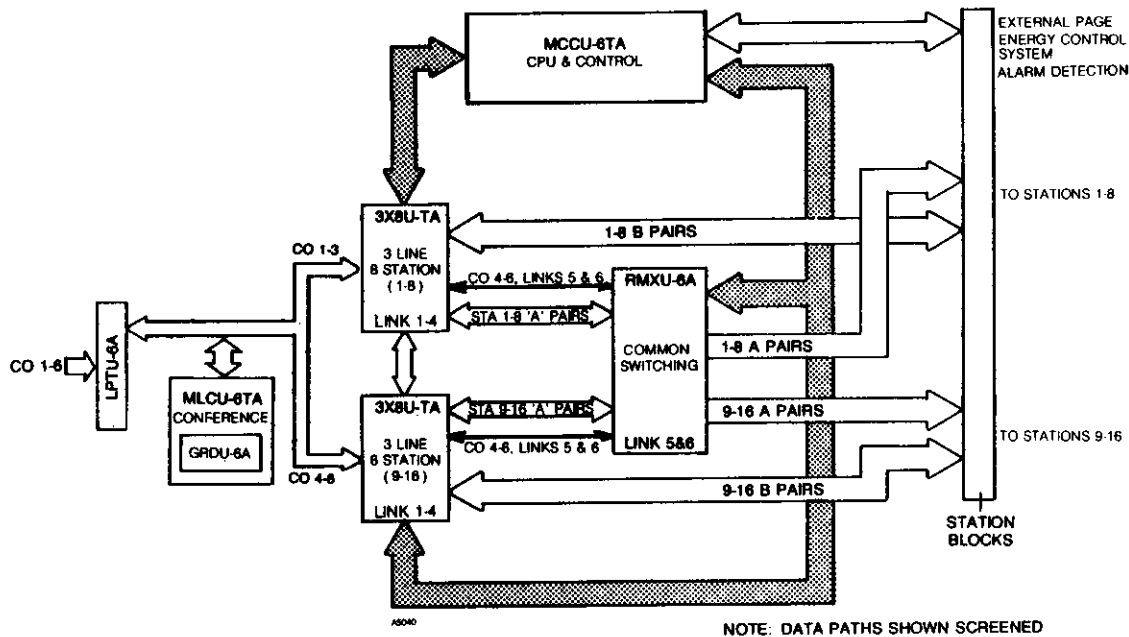

Figure 7-1 SYSTEM BLOCK DIAGRAM, EK-616
2.01 The EK-616 system (Figure 7-1) uses microprocessor technology to process outside calls, manage internal system traffic, and provide the hardware control required to execute the system features and programmable options. The KSU (Key Service Unit) is the system architectural base and interfaces the telephone stations, power supply and external devices to the plug-in circuit boards.